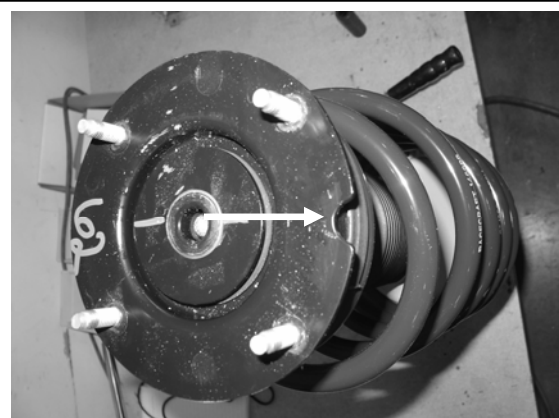

Figure 5
9. Apply a dab of red Loctite to the threads of the center stud. Use the stock 21mm nut to tighten the cap on to the new tower. (Figure 5) There should be at least a few threads above the nut when the strut is fully tightened. **Torque center strut nut to 46 ft-lbs.**